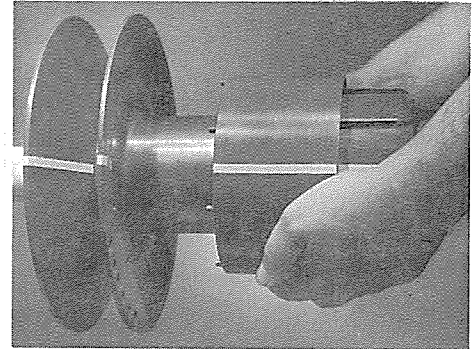

Figure 33
5. Remove all socket head capscrews from the spline cap. The cartridge made up of the spline cap, spring and splined rim may now be removed. See Figure 33.